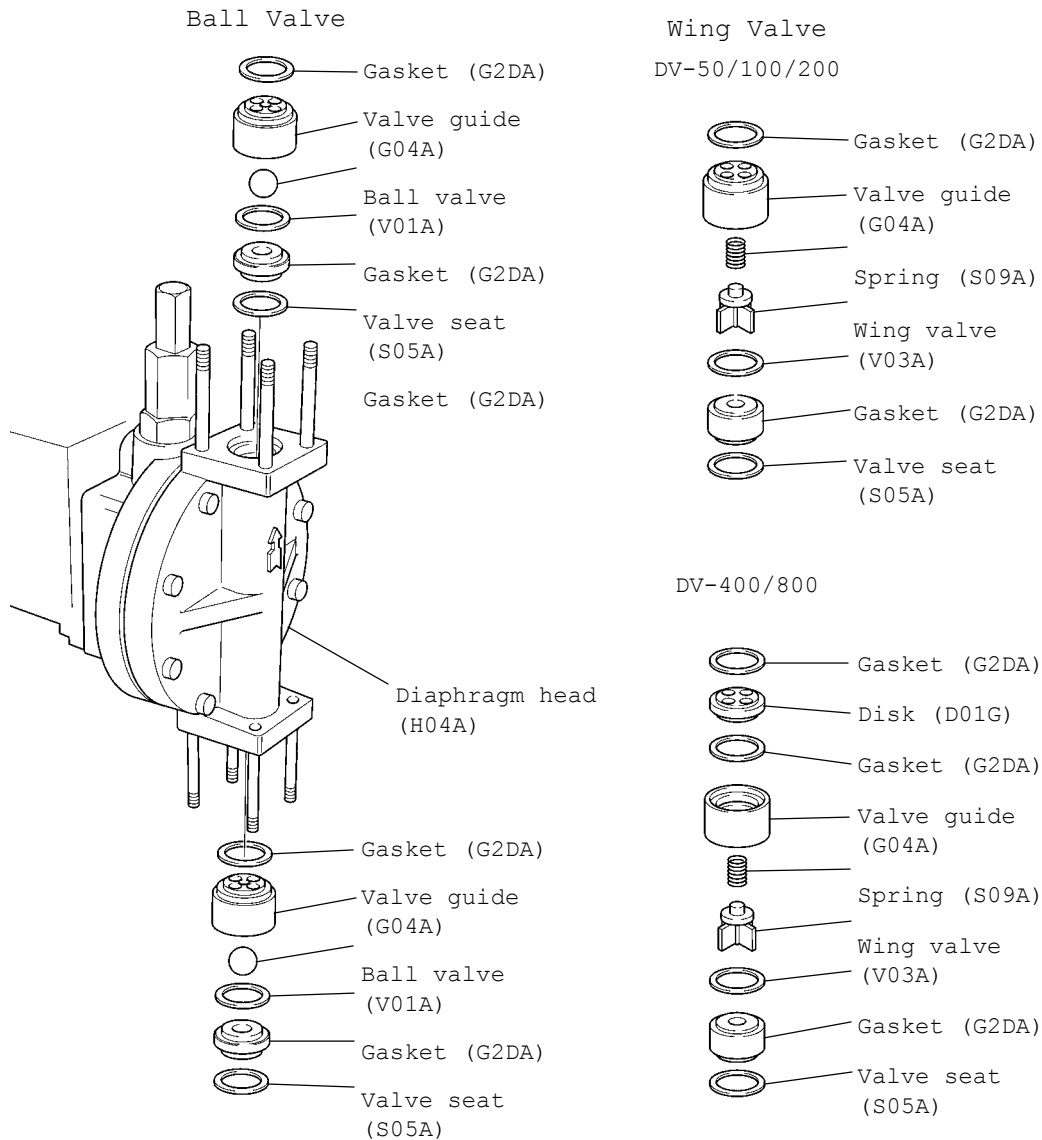

Fig. 7-7 Disassembly of check valve
- (1) When mounting parts of the valve to the diaphragm head, make sure that the position of each part and the direction of the valve seat correspond to those shown in Fig. 7-7 and in the cross section drawing.